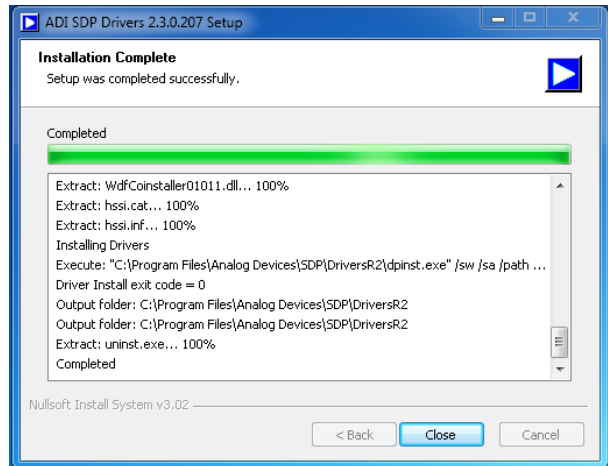

Figure 15. Installation Complete
- Click the **Close** button shown in Figure 15 when the installation is complete.